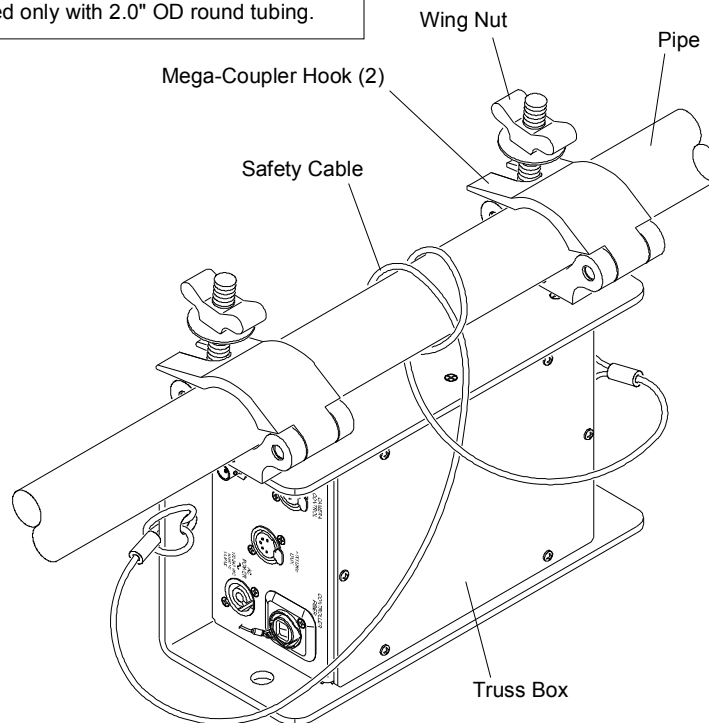

Figure 12: Hanging the Truss Box
Step 1. Mount Truss Box to pipe using Truss Hooks (Figure 12). Tighten wing nuts to secure in place.